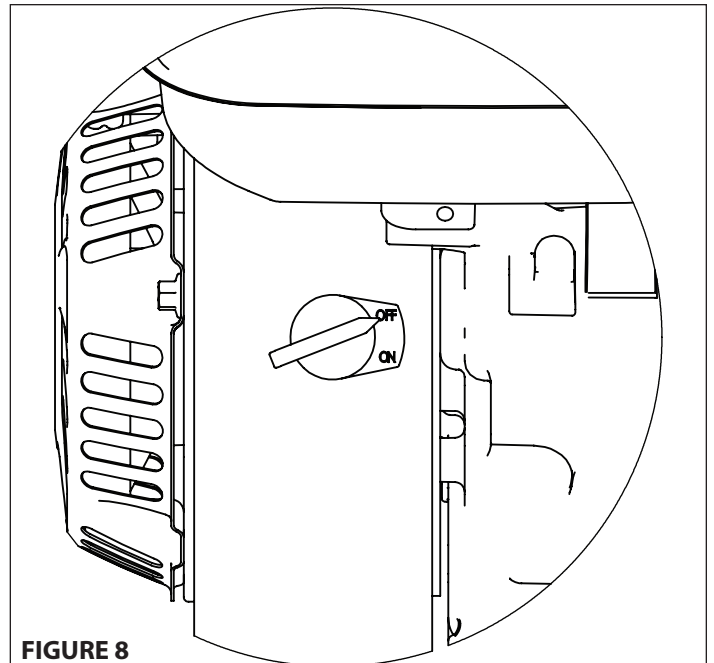

FIGURE 8
2. On manual-start models, turn the On/Off switch to the **OFF** position. On models with fixed throttle, move ON/OFF switch to **OFF** position. **SEE FIGURE 8**